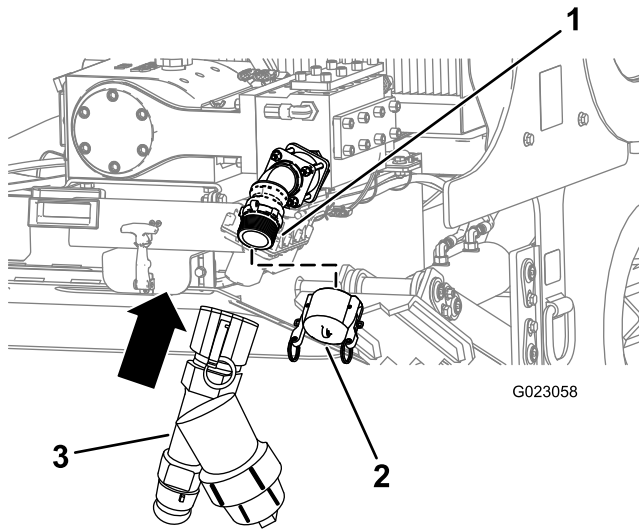

Figure 84
1. Remove the pump-inlet cap (Figure 84).
2. Align the Y-screen with the threads on the pump (Figure 84).